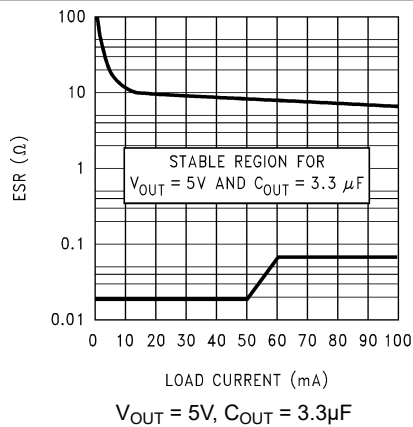
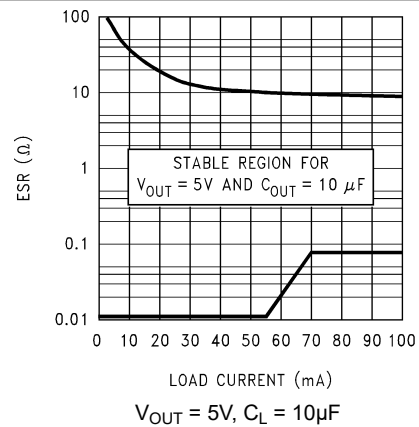
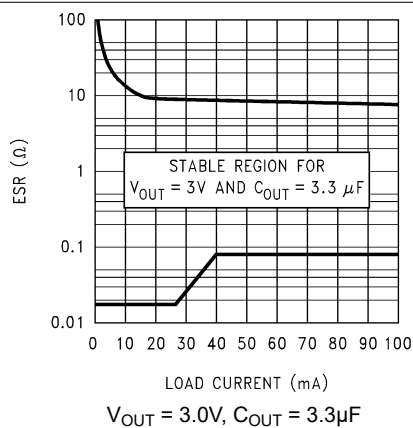

図 7-3. 5V, 3.3 μ F ESR Curves (Legacy Chip)
図 7-4. 5V, 10 μ F ESR Curves (Legacy Chip)
図 7-5. 3.0V, 3.3 μ F ESR Curves (Legacy Chip)
The output capacitor must meet both the requirement for minimum amount of capacitance and equivalent series resistance (ESR) value. Curves are provided that show the allowable ESR range as a function of load current for various output voltages and capacitor values (see Figure 7-3, Figure 7-4, Figure 7-5, and Figure 7-6).
- ESR range: See Figure 7-3, Figure 7-4, Figure 7-5, and Figure 7-6.